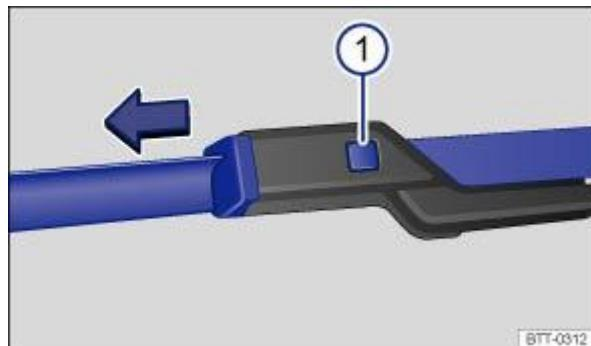

Fig. 164 Changing the windscreen wiper blades.
- ¶ Press and hold the release button ⇒ Fig. 164 ① and simultaneously pull off the wiper blade in the direction of the arrow.